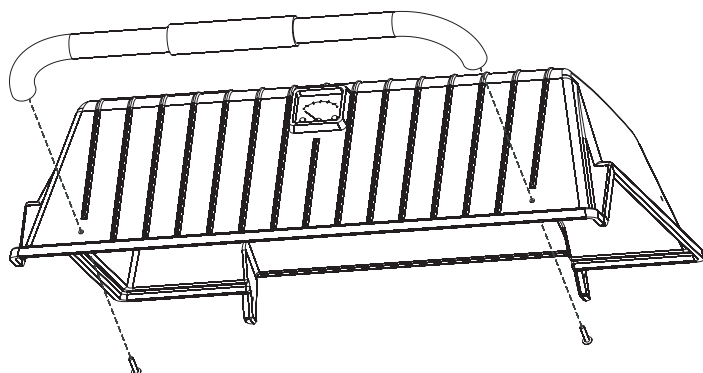

Figure 33
- Fasten the lid handle to the grill body top with two #10-24 x 1" screws. **See Figure 33.**